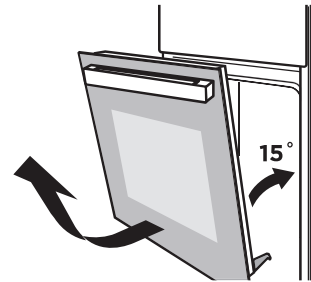

Figure 2
2. Close the door to an angle approximately 15°. Lift up and slowly pull the door out from the oven. (Figure 2)